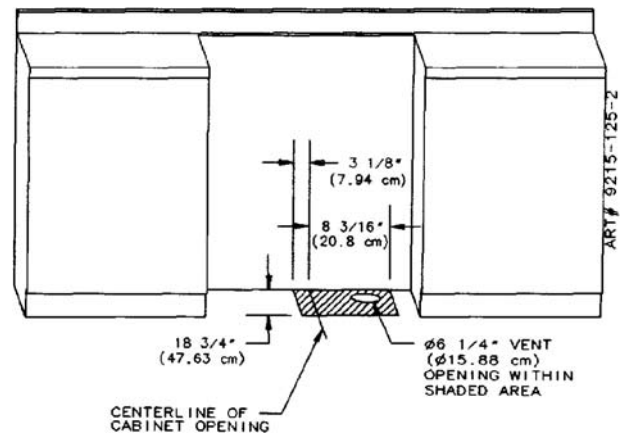
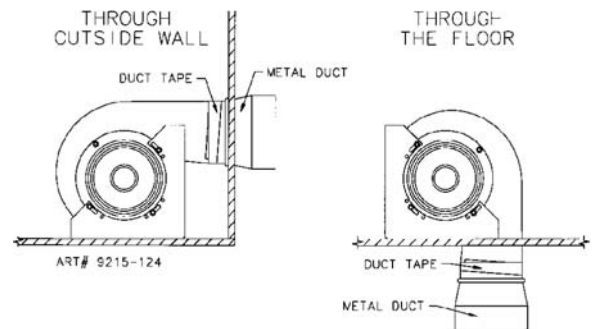

Figure 11
Figure 12
Cut a 6 1/4" diameter hole on the marked centerline making sure to miss any wall studs. Install the blower as shown in figure 12.
- b. **Through the floor.** (See figure 11) Making sure to miss any floor joists cut a 6 1/4" diameter hole in the shaded area as shown in figure 11. Install the blower as shown in figure 12.
- S Apply duct tape to blower exhaust duct joint. (See figure 12).